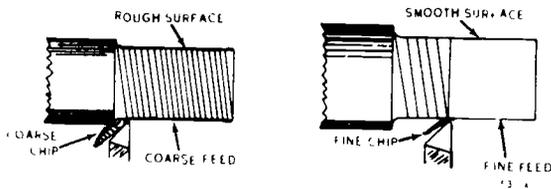

Figure 6. Roughing and finishing feeds
b. Tool material. Figure 6 is based on the use of high-speed cutting tools and drills. Decrease the speed when you use carbon steel tools. Increase the speed when you use carbide and Stellite tools.
a. Finish desired. Coarse feeds produce a rough finish; fine feeds, a smooth finish, as shown in figure 6. A feed of 0.025 to 0.035 inch is recommended for rough turning, and a feed of 0.002 to 0.005 inch is recommended for finish turning.